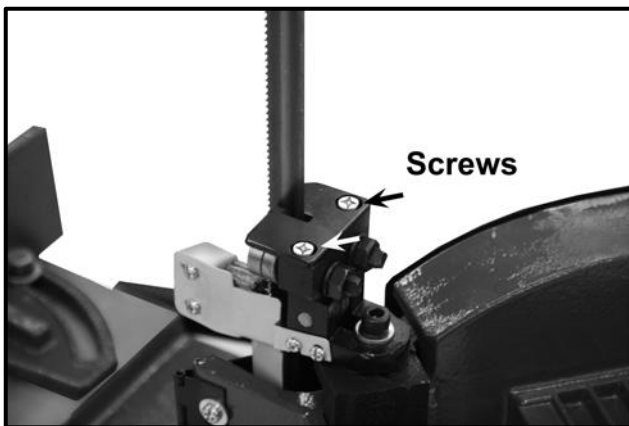

Figure-9 Removing the screws
3. Use a screw driver and remove the two screws as shown in figure-9.